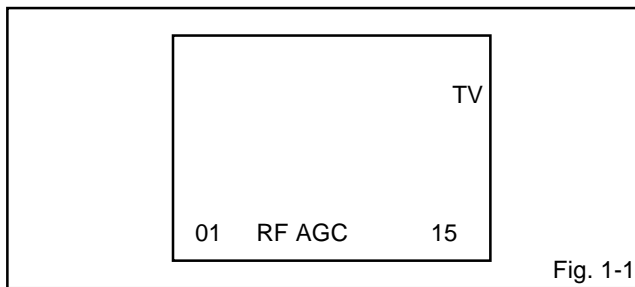

Fig. 1-1
2. Press the VOL. DOWN button on the set and the channel button **(9)** on the remote control for more than 2 seconds to display adjustment mode on the screen as shown in **Fig. 1-1**.
3. Activate the adjustment mode display of **Fig. 1-1** and press the channel button **(13)** on the remote control to select "VCO COARSE".
4. Activate the adjustment mode display of **Fig. 1-1** and press the channel button (**01**) on the remote control to select "RF AGC".
4. Activate the adjustment mode display of **Fig. 1-1** and press the channel button (**39**) on the remote control to select "REC AGC".
3. Activate the adjustment mode display of **Fig. 1-1** and press the channel button (**08**) on the remote control to select "H POSI (50)".
3. Activate the adjustment mode display of **Fig. 1-1** and press the channel button (**09**) on the remote control to select "V POSI (50)".
4. Check if the step No. V. POSI (50) is "05".
9. Activate the adjustment mode display of **Fig. 1-1** and press the channel button (**09**) on the remote control to select "V POSI (60)".
10. Check if the step No. V. POSI (60) is "15".